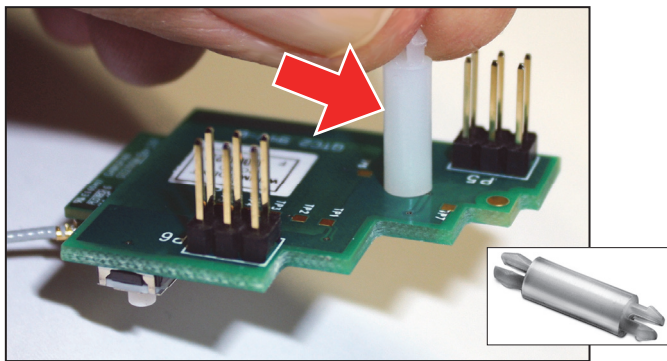

Fig. 1: Standoff (arrow)
1. Insert the plastic **Standoff** into the bottom of the **SLE-WIFI-MODULE** (Fig. 1).